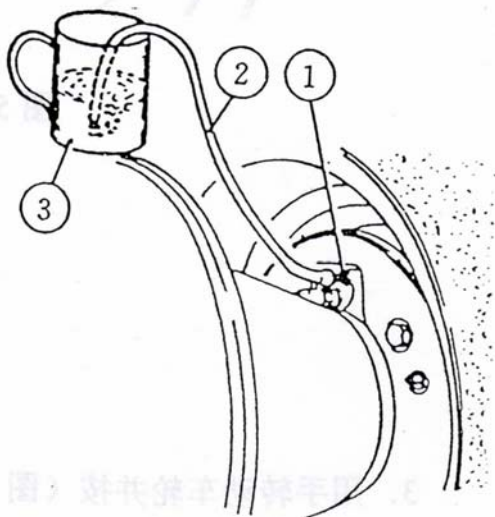

Fig. 50
1. Remove the gum cap of bolt for gas release (Fig. 50/1).
2. Place the hose (Fig.50/2) on bolt for gas release, the other side shall be placed into a clean container (Fig.50/32).